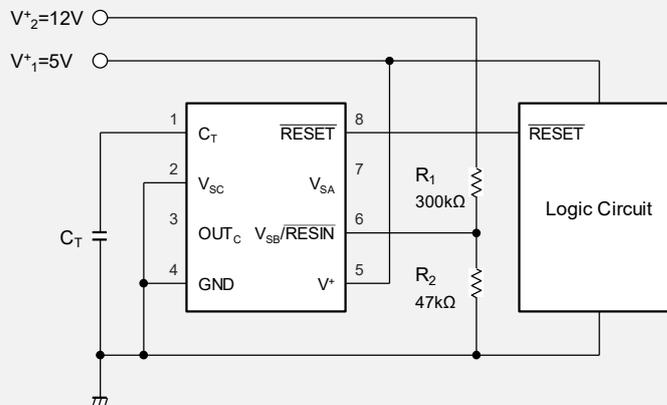

Fig. 5 5V, 12V power supply monitor ( dual power supply monitor :  $V_1^+ = 5V$ ,  $V_2^+ = 12V$ )
- $V_2^+$  detection voltage (falling, rising) is set by  $R_1$  and  $R_2$  according to following formula. In case of resistor value in Fig.5, the detection voltage (falling) is about 9.0 V and the detection voltage (rising) is about 9.2 V.